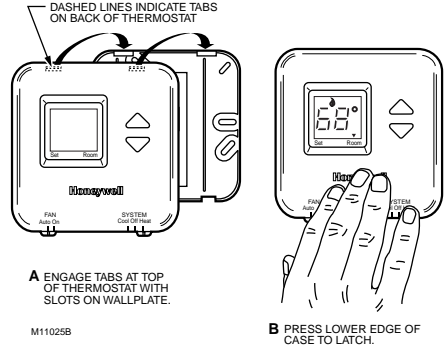

Fig. 8. Mounting thermostat to wallplate.
- Align the tab and connector pins at the top of the thermostat with the wallplate. See Fig. 8.